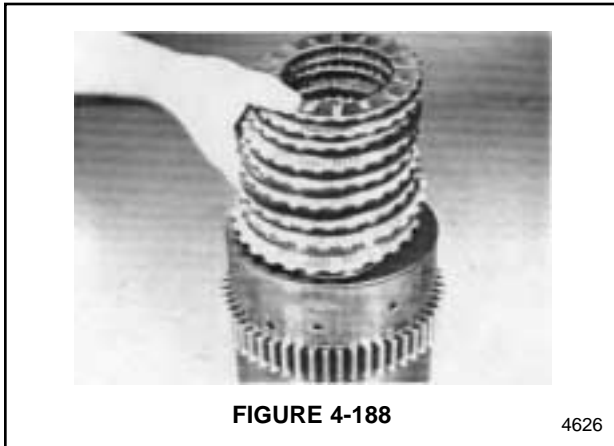

FIGURE 4-188
- Assemble the K4 clutch pack. See Figure 4-188. Insert the first plate with outer teeth into the clutch carrier. Plates